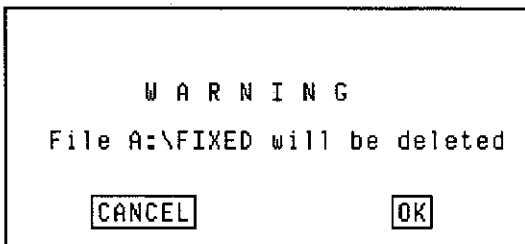

Figure 3-20. Delete Window
2. Click on **<Delete>** to display the Delete window, Figure 3-20.